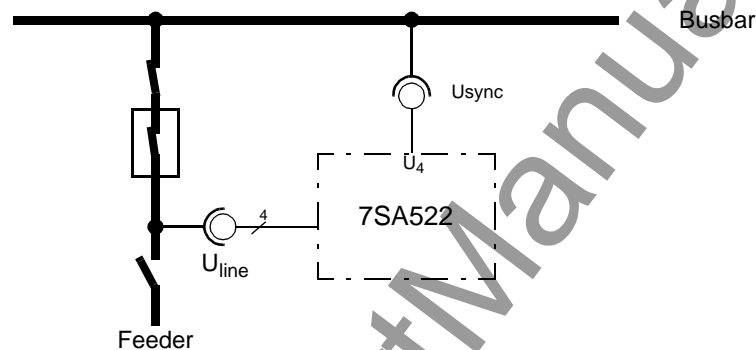

Figure 8-23 Measuring voltages for synchro-check
- ❑ Then the circuit breaker is closed while the line isolator is open (see fig. 8-23). Both voltage transformers therefore measure the same voltage.